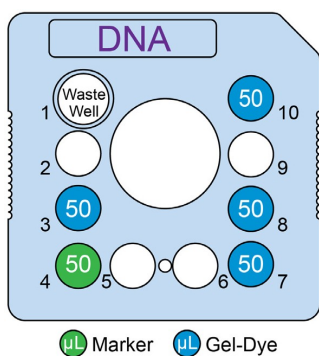

Figure 1. Low-throughput
4. Using a Reverse Pipetting Technique add gel-dye to chip well 3, 7, 8 and 10 as shown in Figure 1 (Low-throughput) or Figure 2 (High-throughput).
5. Add DNA Marker to chip well 4 as shown in Figure 1 (Low-throughput) or Figure 2 (High-throughput). For the High-throughput chip preparation add 50 μL DNA Marker for 96-well plates and 120 μL DNA Marker for 384-well plates or multiple 96-well plate analysis.